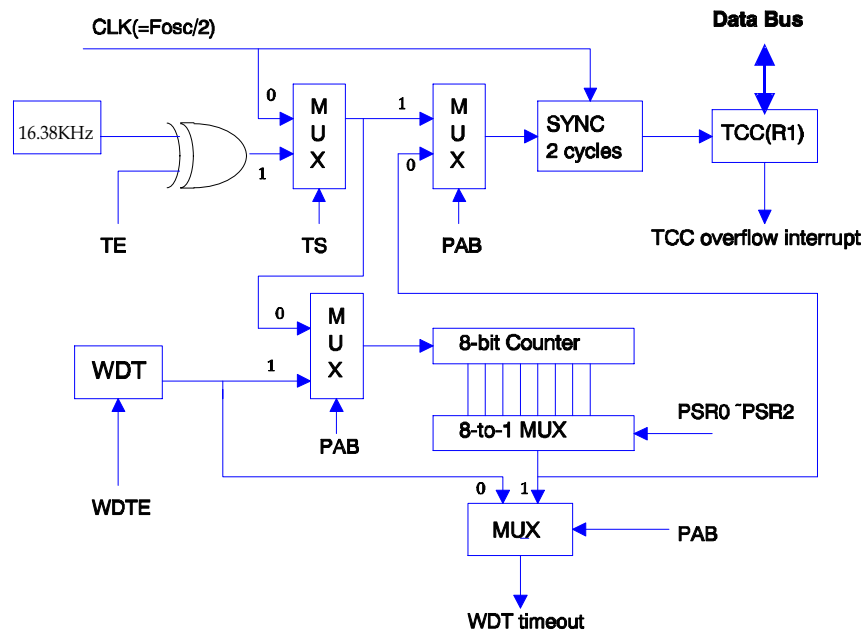

Fig. 12 Block diagram of TCC WDT
- Fig. 12 depicts the circuit diagram of TCC/WDT.